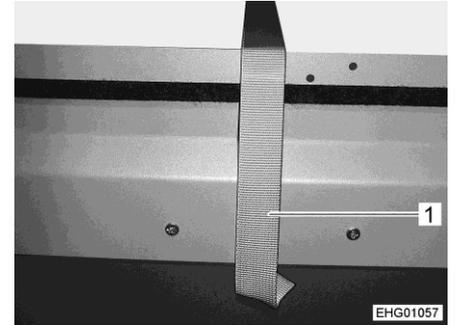

Fig. 56 Safety clip, rear supporting plate
- Loosen the safety clip (Fig. 56,1).
- Secure the rear supporting plate with the safety clip (Fig. 56,1).